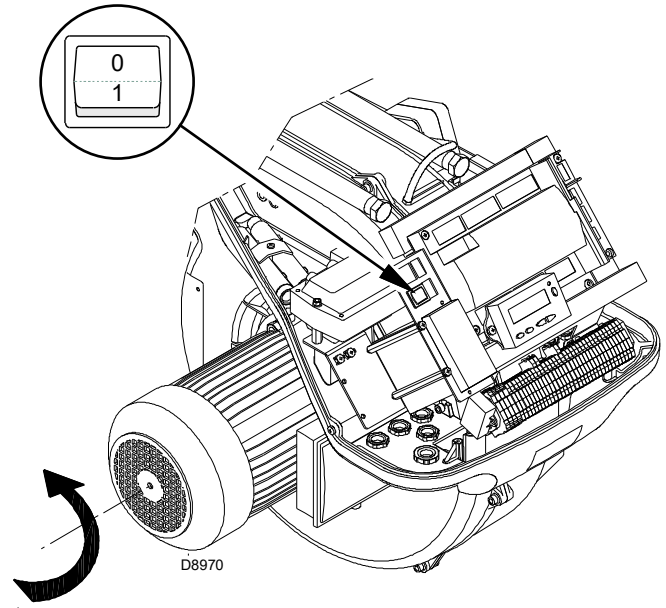

Fig. 28
Close the thermostats/pressure switches and turn the switch of Fig. 28 to position "1".
As soon as the burner starts up, go in front of the cooling fan of the fan motor and check it is rotating anticlockwise. See Fig. 28.
- place the switch of Fig. 28 in position "0" and wait for the flame control to carry out the switch-off phase;
The burner is in the heat request waiting mode, or the selector “0-1” (Fig. 28 at page 32) is at “0”.
With the selector “**0-1**” (Fig. 28 at page 32), the burner does not stop immediately, but the switch-off phase is activated.